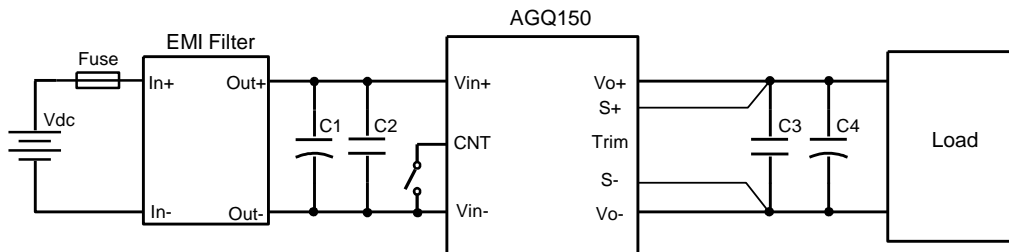

Figure 11 Typical application
Figure 5 Dynamic response for 25% load step (25% ~ 50% ~ 25%) and 0.1A/µs slew rate, (2ms/div), see Figure 11 for test configuration; CH1-output voltage (100mV/div); CH2-output current (10A/div)
Figure 6 Dynamic response for 25% load step (50% ~ 75% ~ 50%) and 1A/µs slew rate, (2ms/div), see Figure 11 for test configuration; CH1-output voltage 50mV/div; CH2-output current (10A/div)
- C1 ~ C4: See Figure 11